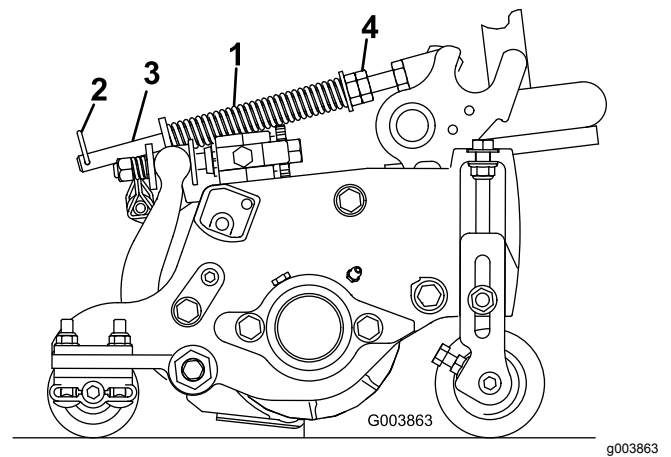

Figure 19
1. Make sure that the hairpin cotter is installed in the rear hole in the spring rod (Figure 19).
2. Tighten the hex nuts on the front end of the spring rod until the compressed length of the spring is 15.9 cm (6.25 inches); refer to Figure 19.